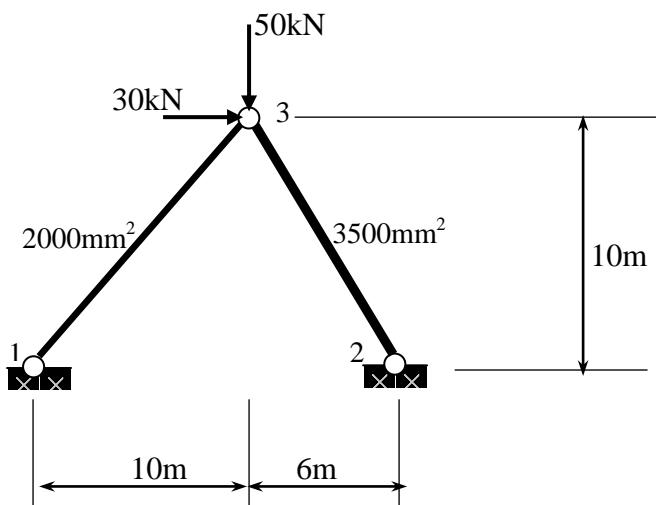
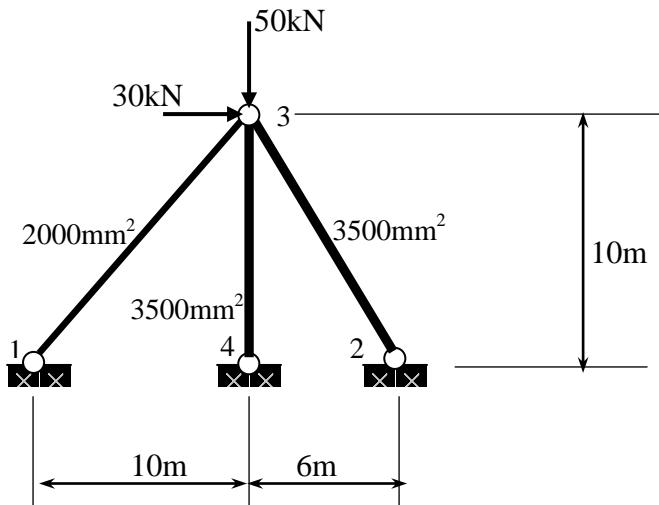

Figure 3
Figure 4
3. (b) Figure 3 shows a two-member truss subjected to horizontal and vertical loads of 30kN and 50kN, respectively, at joint 3. Member cross sectional areas are as indicated in the Figure 3. A decision has been made to include a third member 4-3 with cross sectional area of 3500mm^2 as shown in Figure 4. By using the method of least work, compute: